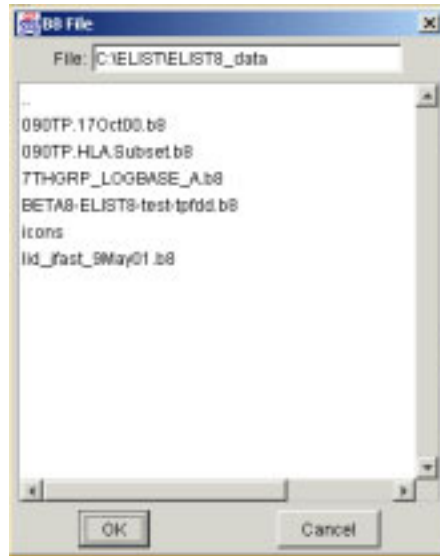

Figure 5.28 B8 File Window
- Click the Browse button. The B8 File window opens (Figure 5.28).